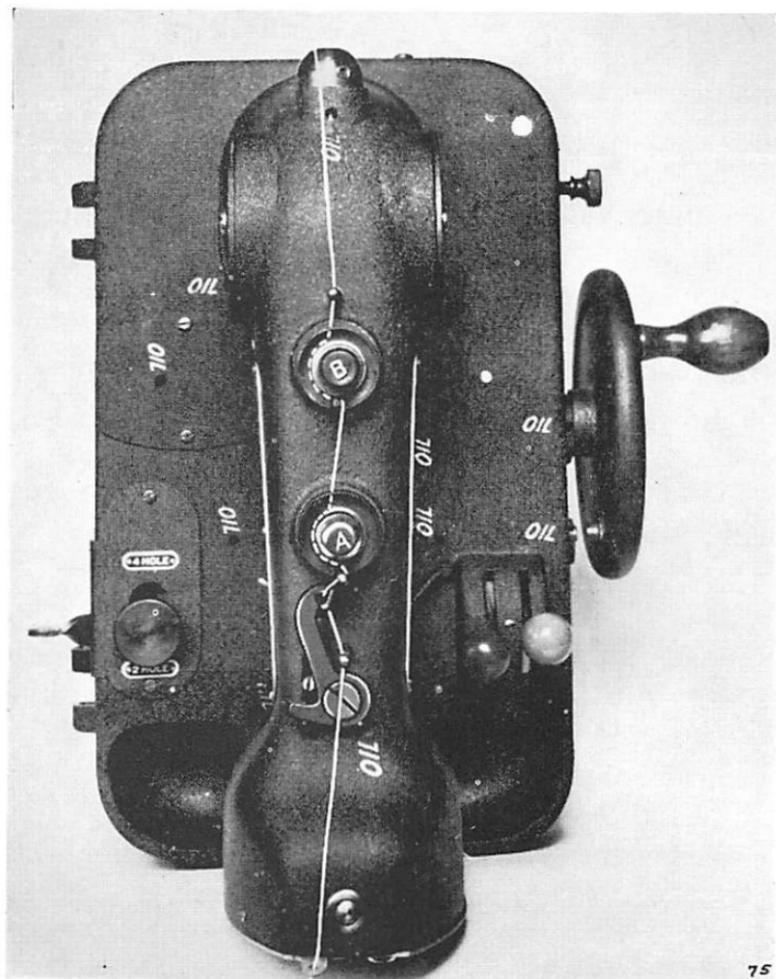
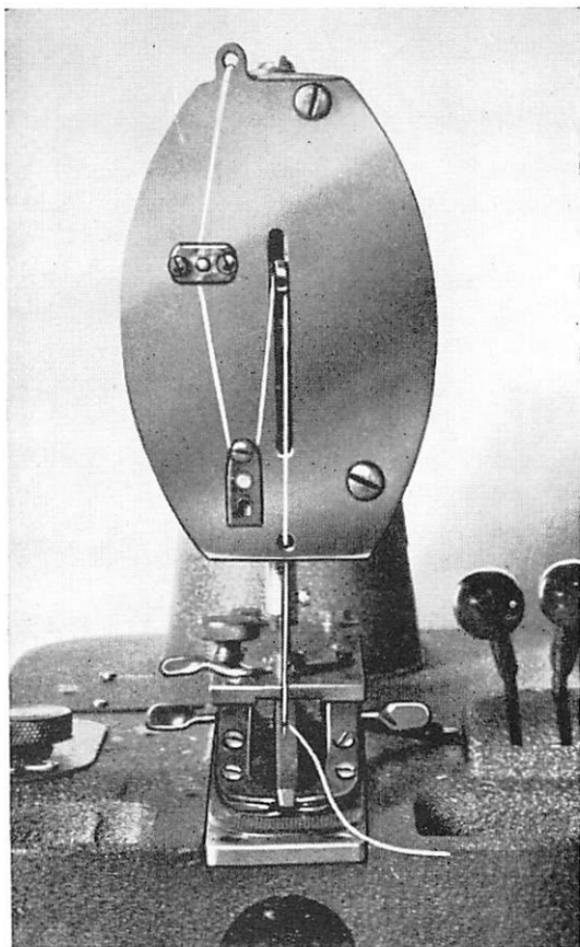

Fig. 2
Fig. 3
**1 - 6 see fig. 2**
**6 - 10 see fig. 3**
**IF THERE IS NO SLACK IN THE THREAD AT THE TOP OF THE MACHINE AND NO EXTRA THREAD FROM THE EYE OF THE NEEDLE, THE LOOPER WILL NOT CATCH THE THREAD and the machine will go through the full cycle of sewing without even making a stitch. (See Fig. 3, Page 6).**
- (1) Turn the machine over and remove any loose strands of thread that may be wound around the looper. Use your finger, never a screw driver. **BUT NEVER LOOSEN OR TAKE OUT THE LOOPER TO REMOVE THREAD.**
- (2) Check the threading of the machine to see that the thread has not jumped out or wound around some part. **COMPARE IT WITH ILLUSTRATIONS FIG. 2 & FIG. 3.** Make sure the thread-pulls through the needle smoothly.
- (3) Check your thread tensions as outlined previously.
- (4) **EXAMINE YOUR NEEDLE IF IT IS BENT, BURRED, OR PUT IN WRONG SIDE TO, IT WILL SURELY CAUSE TROUBLE.** When in doubt always put in a new needle.
- (5) With a **NEW** needle in your machine, crank it slowly to see whether the buttons you are using are deflecting the needle. Even a small amount of deflection can cause much trouble. Try other types of buttons and compare the results. Poor quality of pearl buttons have sharp edges that cut the thread and unevenly spaced holes that deflect the needle.